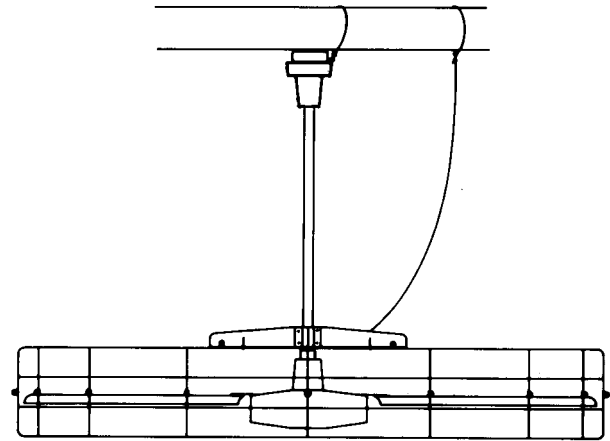

Figure 9 - Attach "Secondary Support Cable"
7. IMPORTANT: After fan guard is completely assembled and mounted, securely attach the "secondary support" cable to or around any structural member that will support 300 pounds as indicated in Figure 9